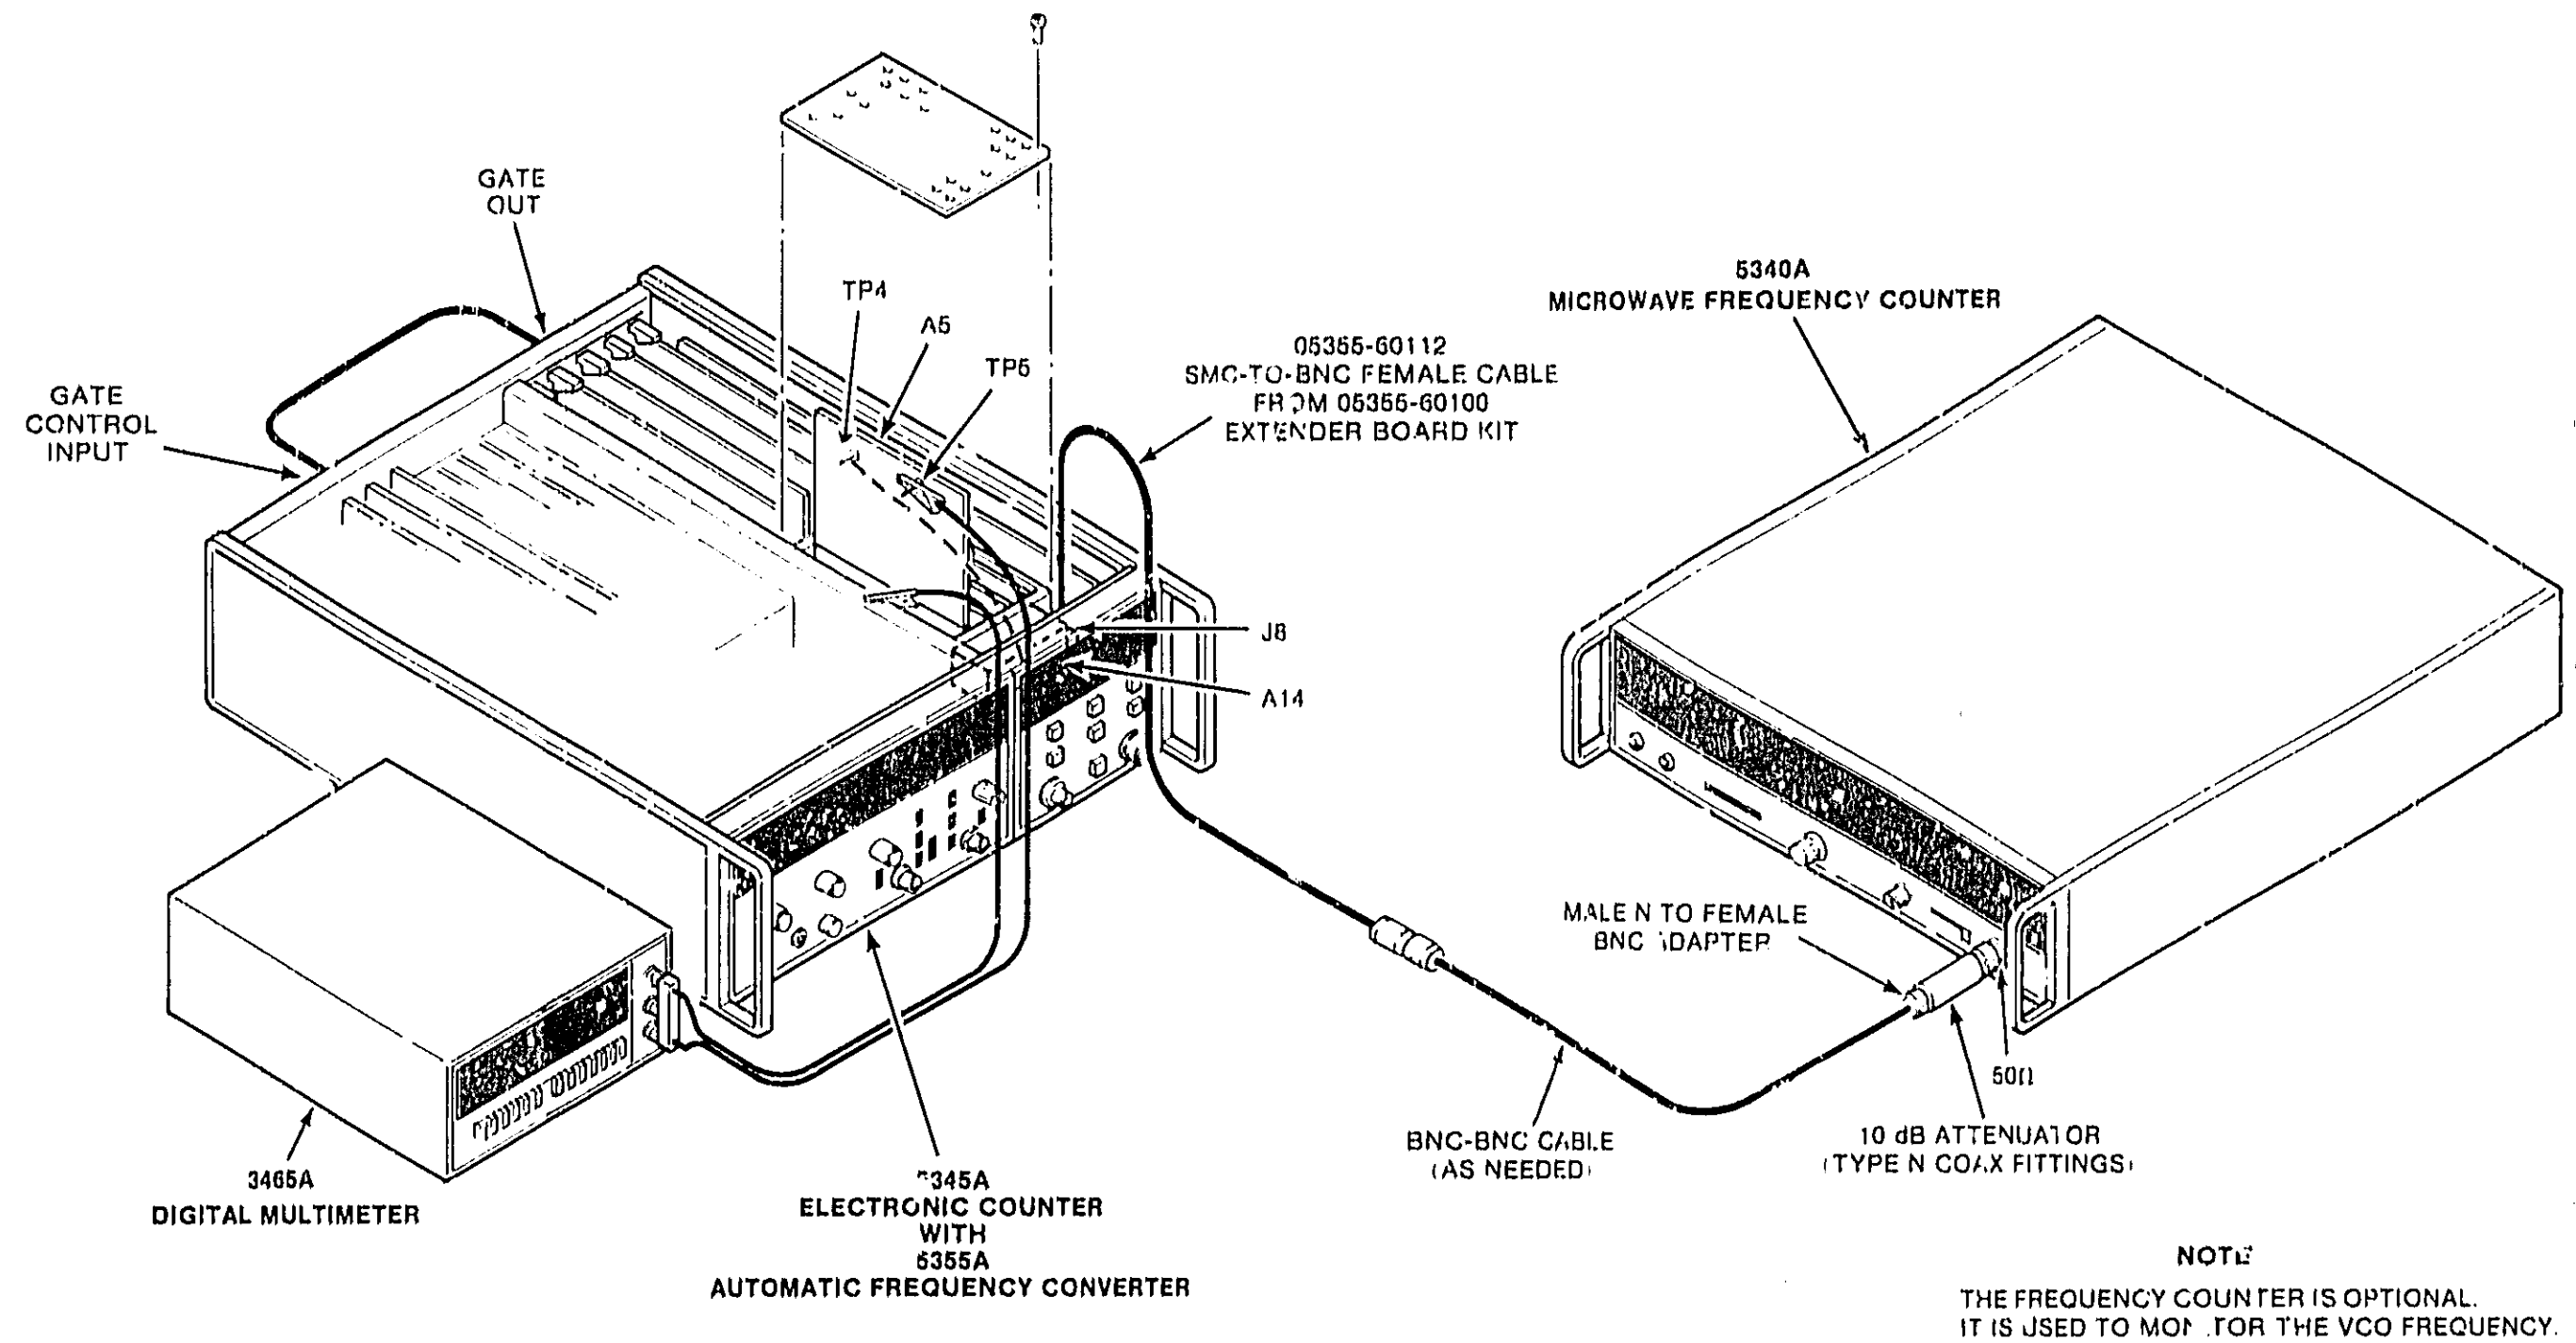

Figure 5-2. A5 Filter Tuning Adjustment Setup
- a. Connect the test equipment as shown in *Figure 5-2*. The maximum voltage to be measured is 15 volts. Adjust the multimeter accordingly.
The power level at A14J8 is about +13 dBm. Use a 10 dB attenuator in series with the 50 Ω input to the HP Model 5340A shown in *Figure 5-2*.